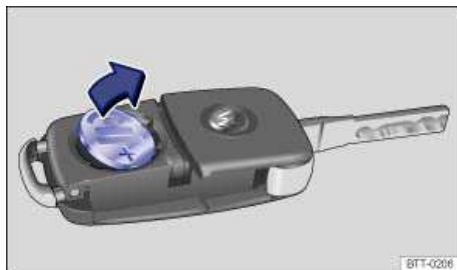

Fig. 19 Remote control vehicle key: Remove old battery.
- Use a thin object to pry the battery out of the battery compartment ⇒ fig. 19.